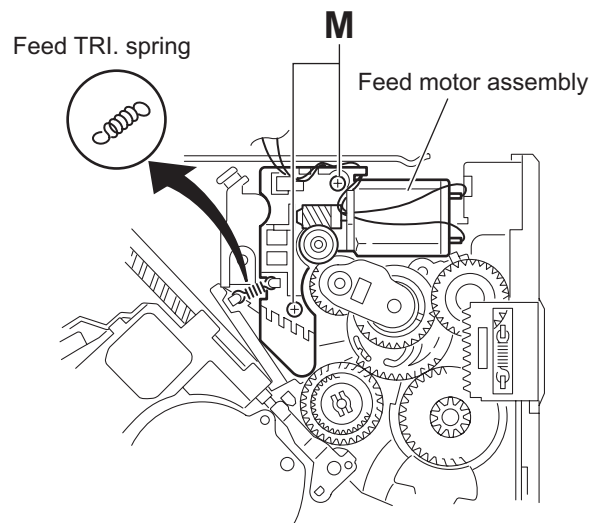

Fig.21
### 3.2.11 Removing the feed motor assembly (See Fig.21 and 22)
(See Fig.21.)
- Remove the two screws **M** attaching the feed motor assembly. (See Fig.21.)